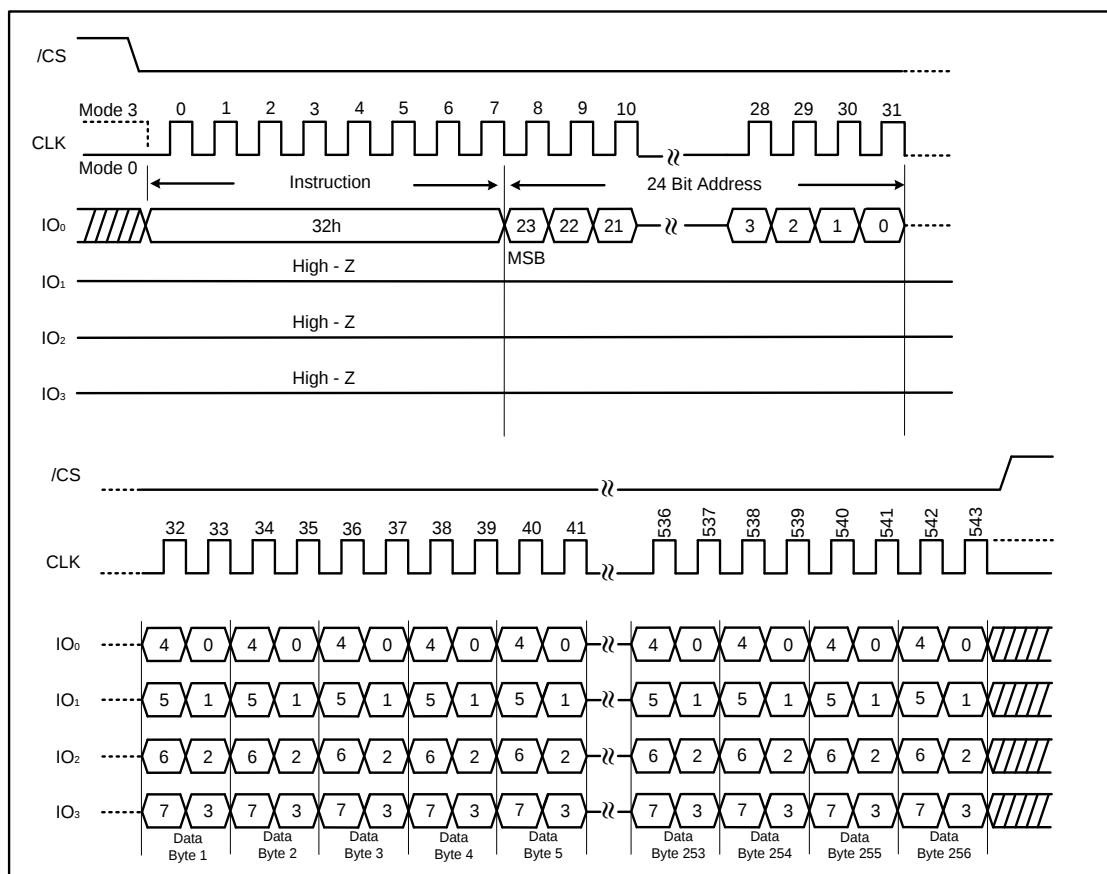

Figure 25. Quad Input Page Program Instruction (SPI Mode only)
To use Quad Input Page Program the Quad Enable (QE) bit in Status Register-2 must be set to 1. A Write Enable instruction must be executed before the device will accept the Quad Input Page Program instruction (Status Register-1, WEL=1). The instruction is initiated by driving the /CS pin low then shifting the instruction code “32h” followed by a 24-bit address (A23-A0) and at least one data byte, into the IO pins. The /CS pin must be held low for the entire length of the instruction while data is being sent to the device. All other functions of Quad Input Page Program are identical to standard Page Program. The Quad Input Page Program instruction sequence is shown in Figure 25.